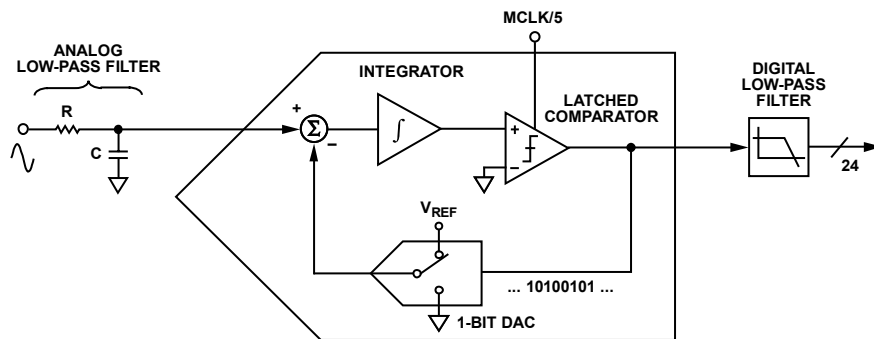
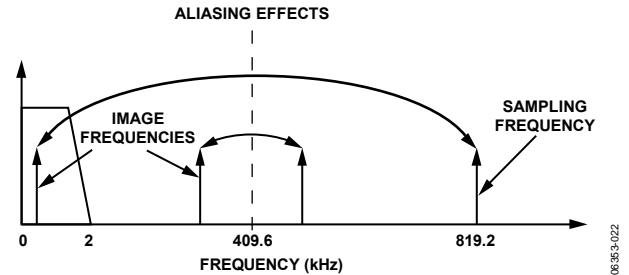

Figure 33. First-Order  $\Sigma$ - $\Delta$  ADC
Figure 34. ADC and Signal Processing in Current Channel Outline Dimensions
For simplicity, the block diagram in Figure 33 shows a first-order  $\Sigma$ - $\Delta$  ADC. The converter is made up of the  $\Sigma$ - $\Delta$  modulator and the digital low-pass filter.
Figure 33 also shows an analog low-pass filter (RC) on the input to the modulator. This filter is present to prevent aliasing, an artifact of all sampled systems. Aliasing means that frequency components in the input signal to the ADC, which are higher than half the sampling rate of the ADC, appear in the sampled signal at a frequency below half the sampling rate. Figure 34 illustrates the effect. Frequency components (the black arrows) above half the sampling frequency (also known as the Nyquist frequency, that is, 409.6 kHz) are imaged or folded back down below 409.6 kHz. This happens with all ADCs regardless of the architecture. In the example shown, only frequencies near the sampling frequency (819.2 kHz) move into the band of interest for metering (40 Hz to 2 kHz). This allows the use of a very simple LPF (low-pass filter) to attenuate high frequency (near 819.2 kHz) noise and prevents distortion in the band of interest.
For conventional current sensors, a simple RC filter (single-pole LPF) with a corner frequency of 10 kHz produces an attenuation of approximately 40 dB at 819.2 kHz (see Figure 34). The 20 dB per decade attenuation is usually sufficient to eliminate the effects of aliasing for conventional current sensors. However, for a di/dt sensor such as a Rogowski coil, the sensor has a 20 dB per decade gain. This neutralizes the -20 dB per decade attenuation produced by one simple LPF. Therefore, when using a di/dt sensor, care should be taken to offset the 20 dB per decade gain. One simple approach is to cascade two RC filters to produce the -40 dB per decade attenuation needed.